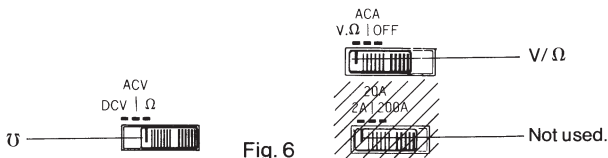

Fig. 6
- (1) Set the function selector switches as shown in Fig. 6.